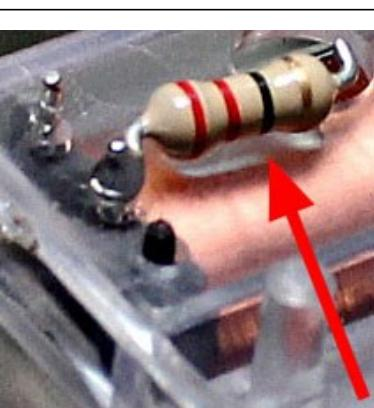

Fig. 14: Resistor with "super glue."
**Don't take chances!** I strongly recommend securing the resistor to the housing before you perform the next step, using adhesive such as rubber cement, Goop (**Fig. 16**) [http://eclecticproducts.com/ag\\_adhesives.htm](http://eclecticproducts.com/ag_adhesives.htm), or cyanoacrylate ("super glue"), seen here in Fig. 14. Keep the adhesive off the resistor leads, or soldering will be impossible.